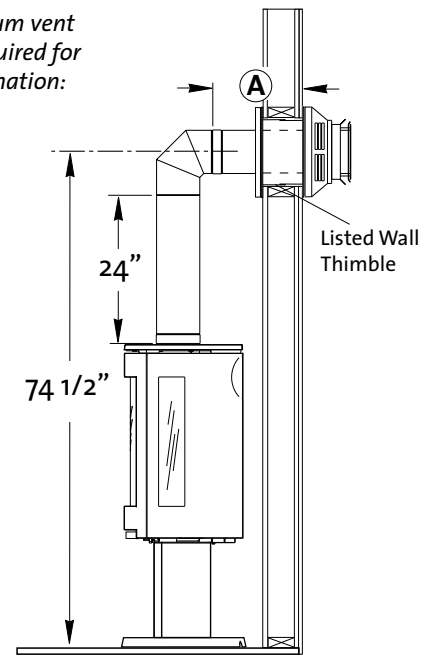

Figure 10. Minimum vent pipe sections required for a 14" Snorkel termination - **Natural Gas ONLY.**
**A horizontal vent run may be made with a 90° elbow directly to the rear of the stove only when terminated by a 14 or 36 inch snorkel cap.** Fig. 10 shows the minimum vent pipe requirements.